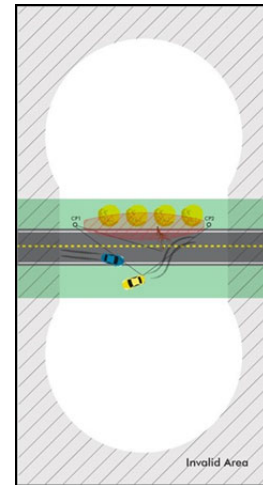

Figure 11
Feature locations that produce poor or invalid data points (Figure 11). Features that fall in the hatched area (1) between the control points or (2) outside of the figure '8' shape will be difficult to map. Set new control points to map those features (Page 45).
**Geometry Warning** - If the feature (data point) being mapped falls into the invalid area (Figure 11), it can present a possible error. The user can choose to accept marginal data and add the point anyway or select cancel and re-measure the point.